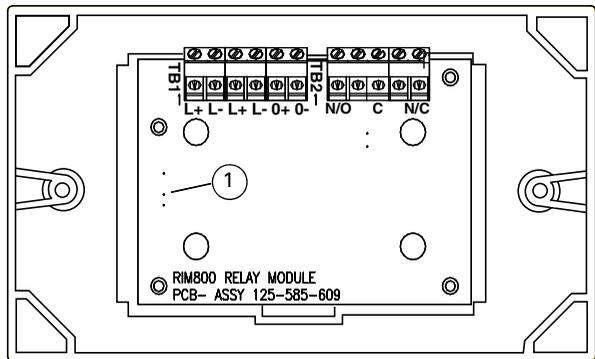

Fig. 3: RIM800 Simplified Wiring Diagram
- See Fig. 3 for RIM800 simplified wiring diagram.